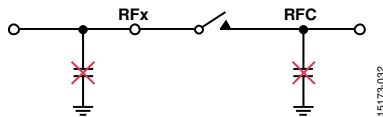

Figure 39. Avoid Connecting Large Capacitive Terminations Directly to the Switch
- Avoid connecting large capacitive terminations directly to the switch. A shunt capacitor can store a charge that can potentially give rise to hot switching events when the switch opens or closes, affecting the lifetime of the switch. Figure 39 shows where to avoid large capacitive terminations.